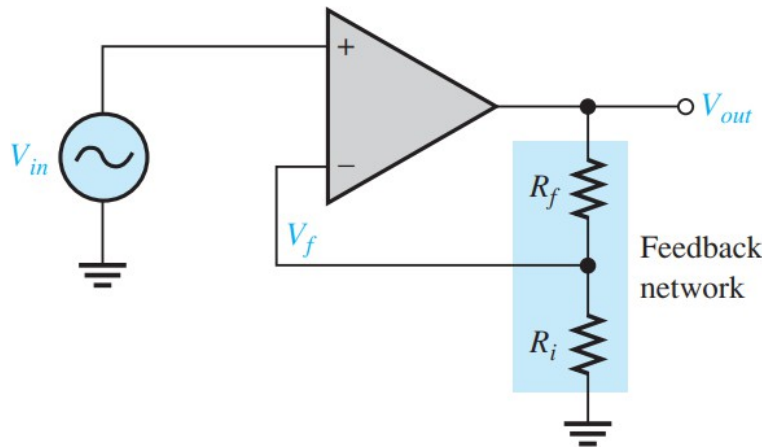

Figure 1: Noninverting amplifier
Figure 1 illustrates a noninverting amplifier with negative feedback. The input is applied to the noninverting terminal and a fraction (B) of the output is returned to the inverting input by the voltage divider. The very high gain of the amplifier forces the two inputs to be very nearly the same voltage; therefore, the input voltage is across R_i , and the output voltage is across $R_i + R_f$. The closed-loop gain of this noninverting amplifier is given as $A_{cl(NI)}$. The closed-loop gain is the reciprocal of the feedback fraction, as shown in Figure 1.
- b. Using the measured resistances, compute the closed-loop gain of the noninverting amplifier. The closed-loop gain equation is given next to Figure 1.